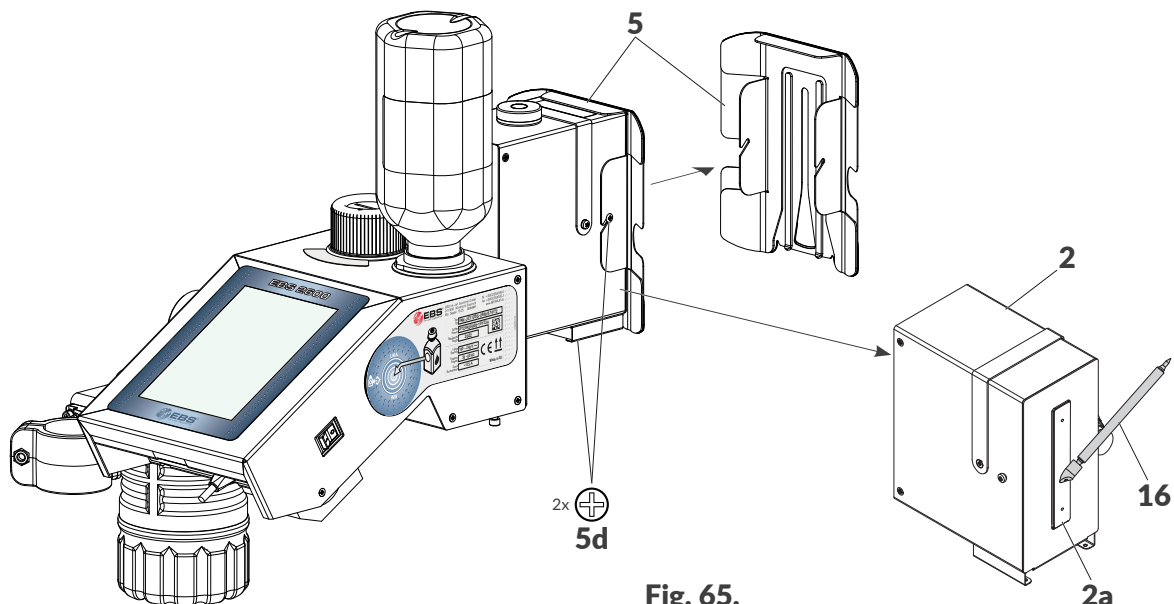

Fig. 65.
2. Use the cross head screwdriver to loosen two screws **5d** (see **Fig. 65**) that fasten slide **5** to printhead **2**.